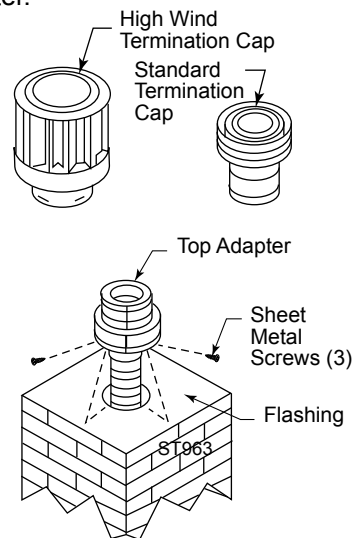

Figure 51
7. Secure the cap adapter to the flashing. Use three (3) sheet metal screws through the side of the adapter into the flange on the flashing as shown in Figure 51. Twist-lock the termination cap (980,991, 930) on to the cap adapter.